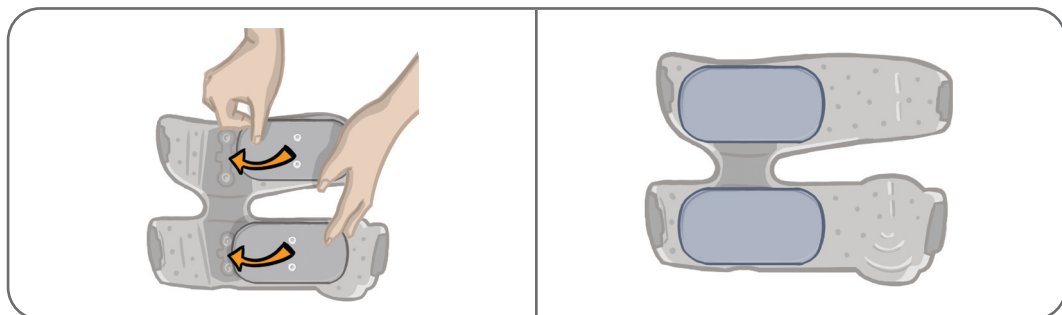

Figure 6-4: Aligning and Attaching the Thigh Cloth Electrodes
5. Align the snaps on the Thigh Cloth Electrodes to the plug holes on the Thigh Cuff. See Figure 6-4.
6. Press firmly to snap the small Thigh Cloth Electrode to the Thigh Cuff bottom panel. Press firmly to snap the large Thigh Cloth Electrode to the Thigh Cuff top panel. See Figure 6-4.